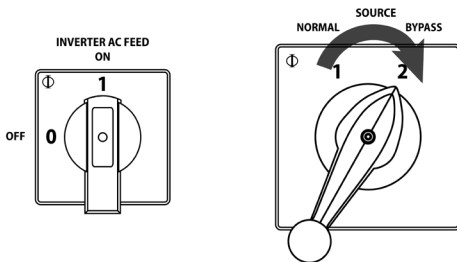

Figure 18. Switching SOURCE to BYPASS
Step 3. Within ten seconds turn SOURCE switch from position 1 (*NORMAL*) to position 2 (*BYPASS*). See Figure 18.